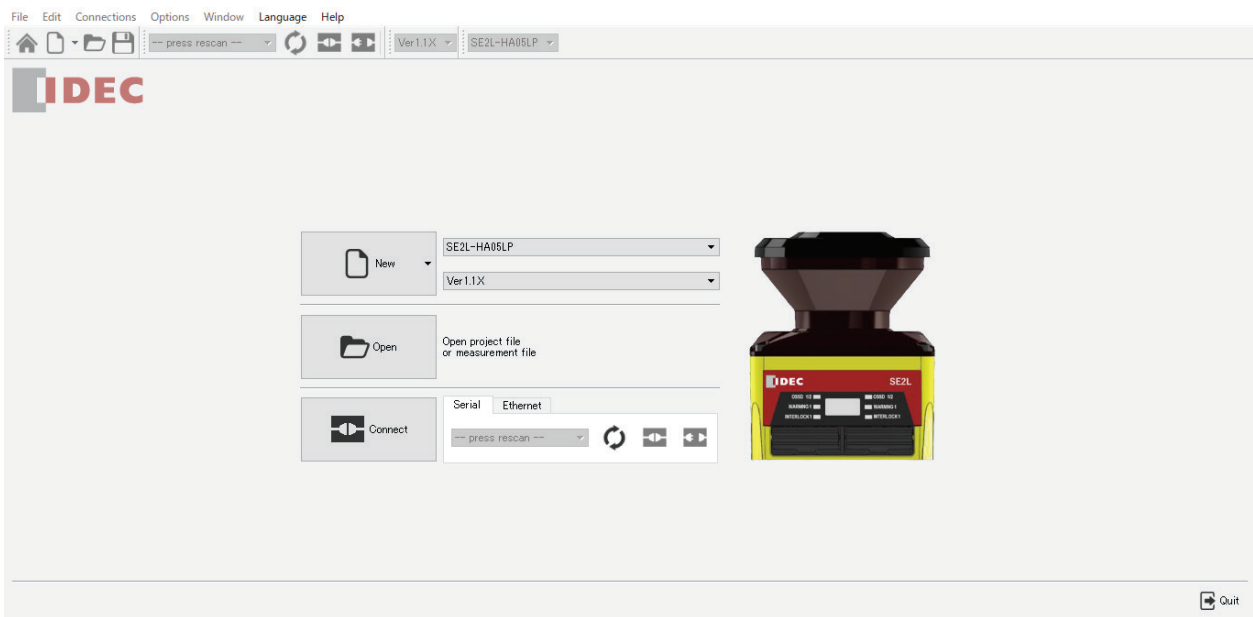

Figure 7-12 Main window
- Main window as shown in figure 7-12 will be displayed when SLS Project Designer starts.